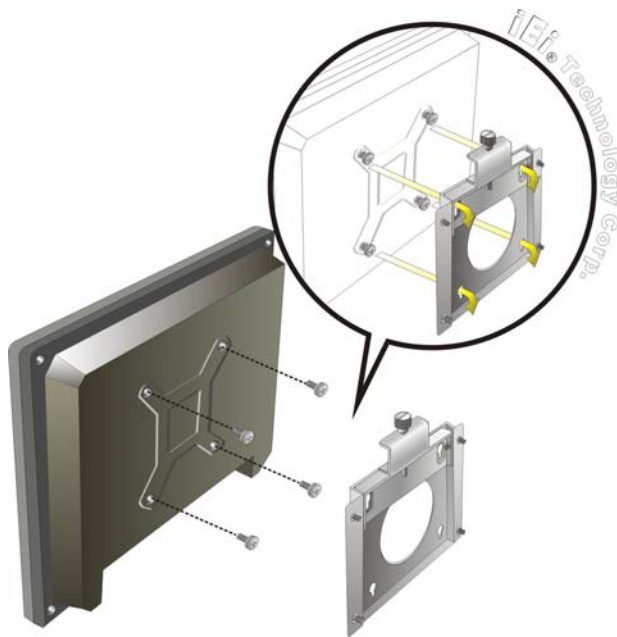

Figure 4-4: Chassis Support Screws
Step 6: Insert the four monitor mounting screws provided in the wall mount kit into the four screw holes on the rear panel of the flat panel PC and tighten until the screw shank is secured against the rear panel (**Figure 4-4**).
Step 8: Carefully insert the screws through the holes and gently pull the monitor downwards until the monitor rests securely in the slotted holes (**Figure 4-4**). Ensure that all four of the mounting screws fit snugly into their respective slotted holes.